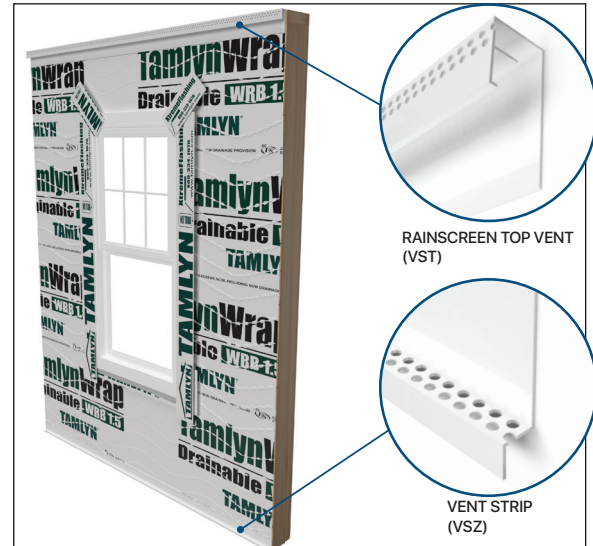

FIG 1:
- Install TAMLYN's **VST** and **VSZ** vent strips over existing WRB as shown in **(FIG 1)**.